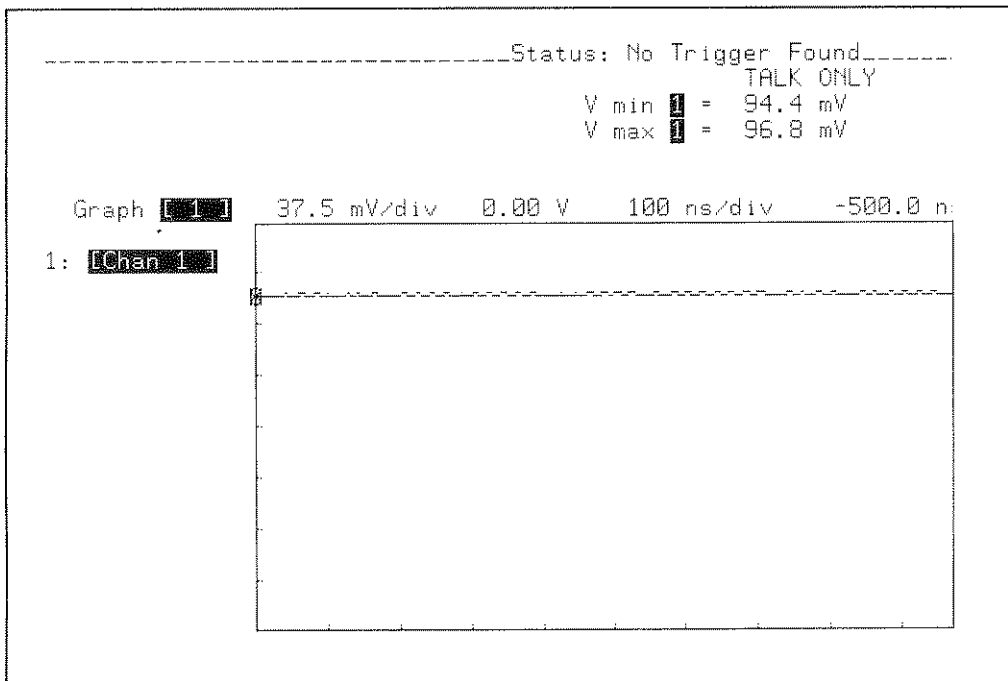

Figure 9-4. DISPLAY Waveform
5. The display should appear similar to figure 9-4.